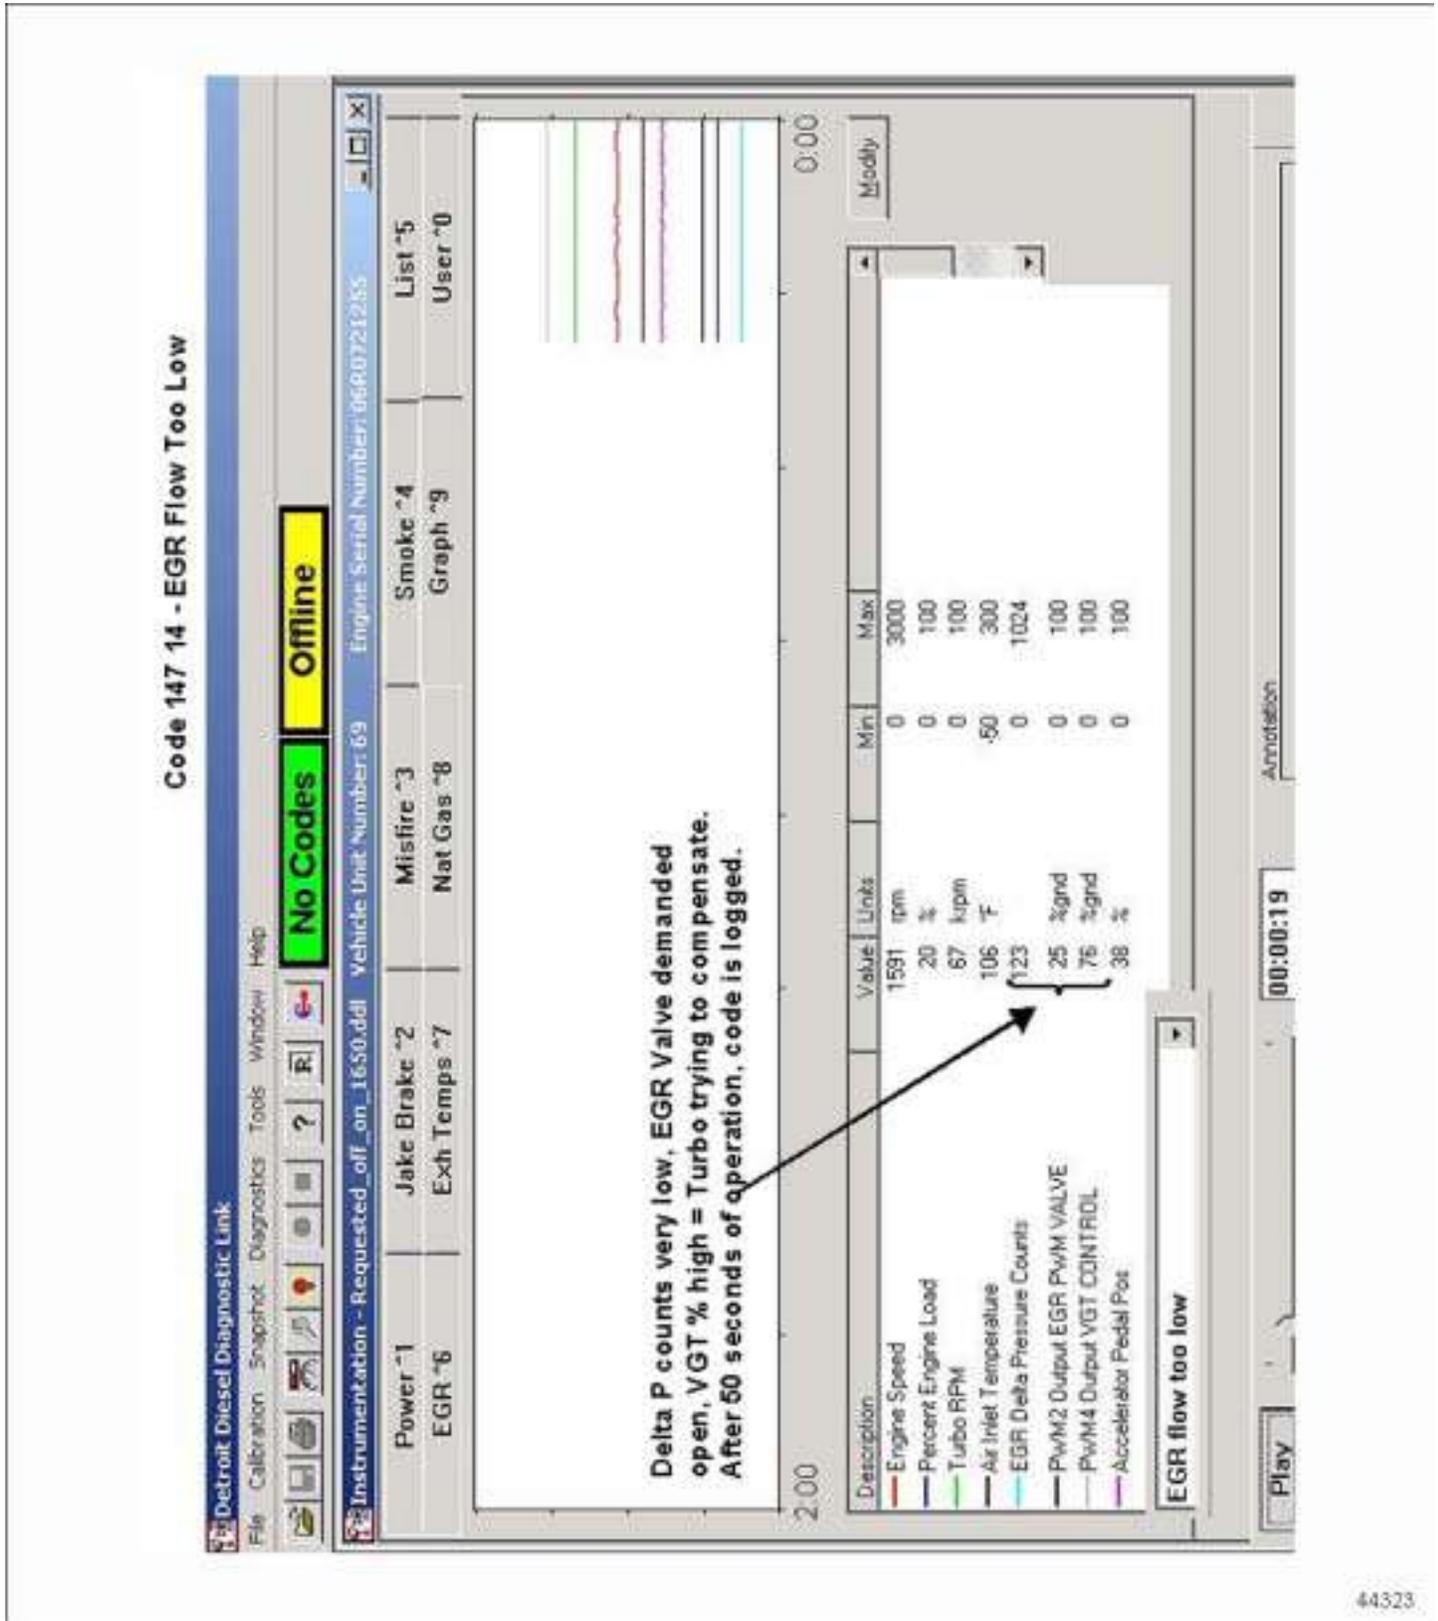

Figure 7-6 Code 147 14 — EGR Flow Too Low
- 147 14, EGR Flow too Low. See Figure 7-6.